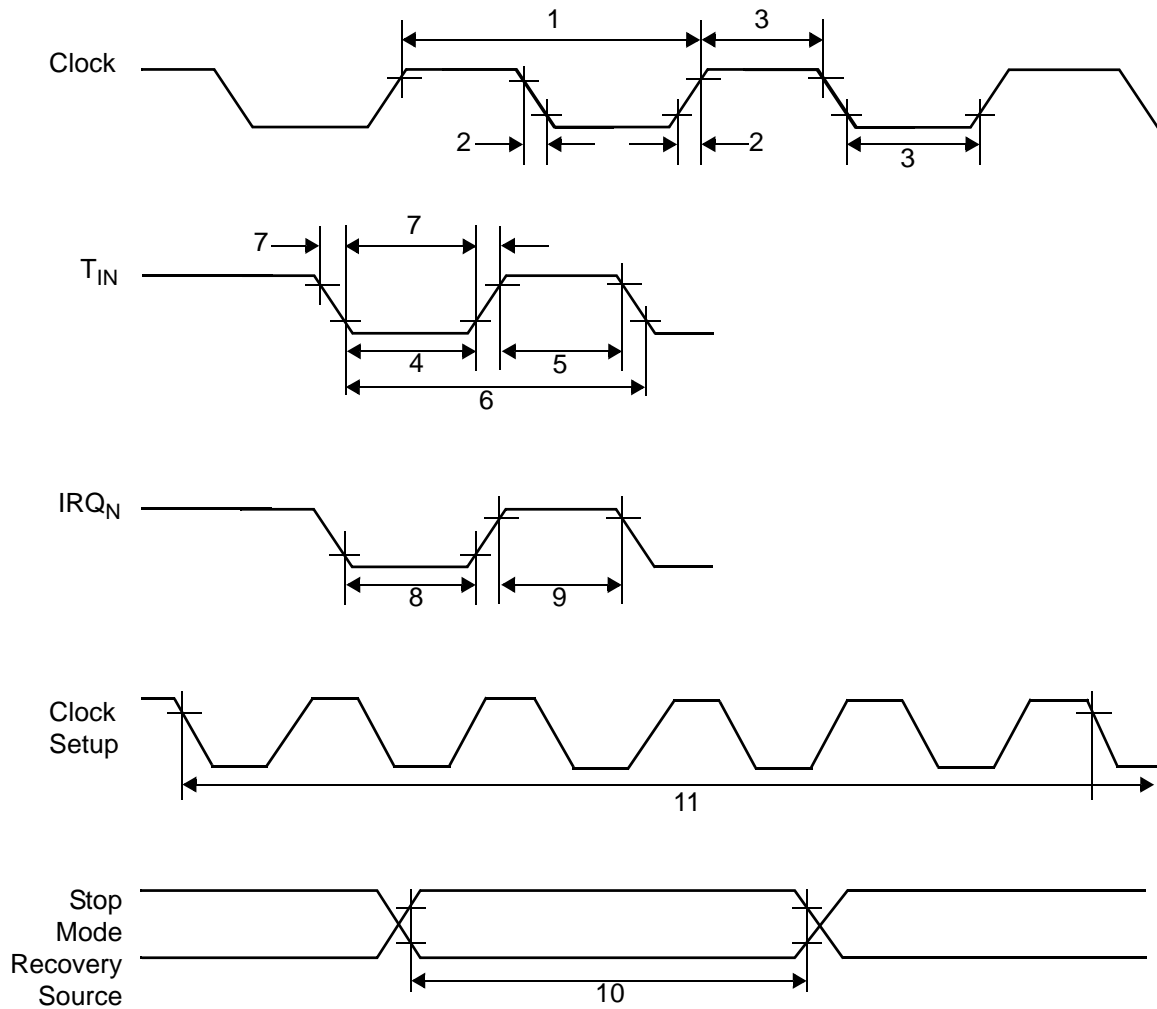

Figure 8. AC Timing Diagram
Figure 8 and Table 9 describe the Alternating Current (AC) characteristics.